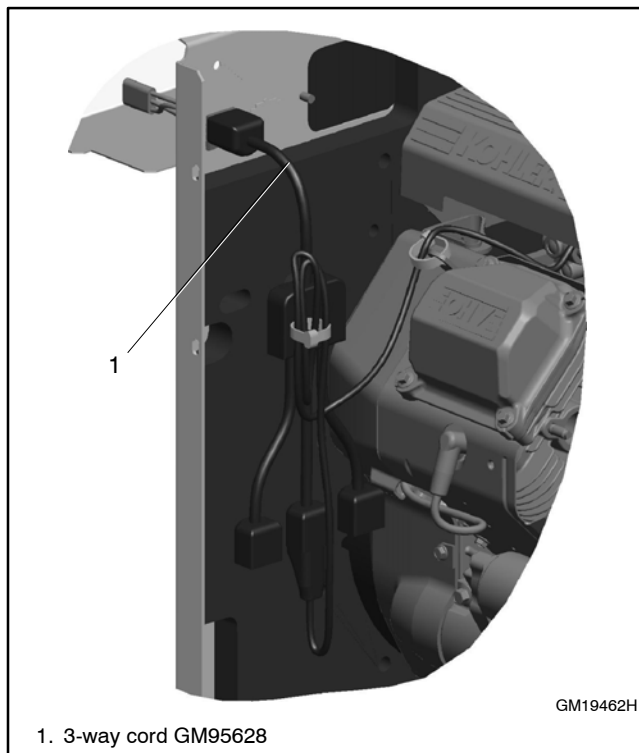

Figure 20 3-Way Cord GM95628 (included with kit GM19462-KP4-QS)
- 7.3 Kit GM19462-KP4-QS includes a 3-way extension cord GM95628. If multiple AC accessories are installed on the generator set, use the 3-way cord to connect them to one AC receptacle. Gather the excess cord and secure with a cable tie. See Figure 20.